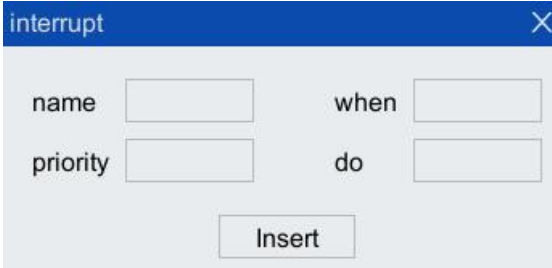

Figure 5-39 "Interrupt" instruction configuration interface
Step1. Click "Insert Cmd> Interrupt Trigger> Interrupt" option in the toolbar of the program editor to pop up "interrupt" instruction interface, as shown in Figure 5-39.